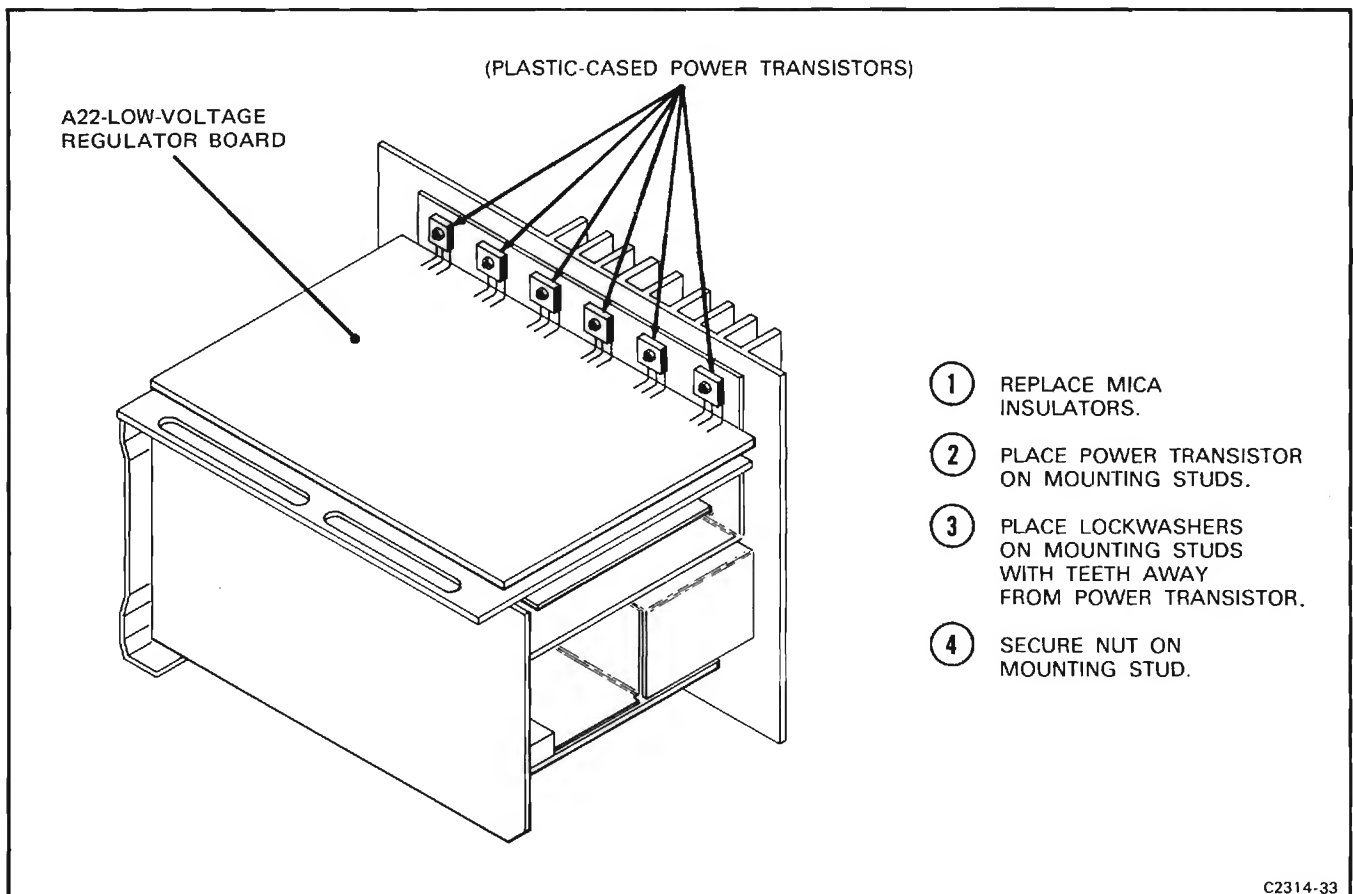

Figure 3-15. Correct placement of power transistor and mounting hardware in rear heatsink.
5. Remove the mounting hardware securing the plastic-cased power transistors to the rear heatsink (see Fig. 3-15). Note the position of the lockwashers so they can be correctly replaced.